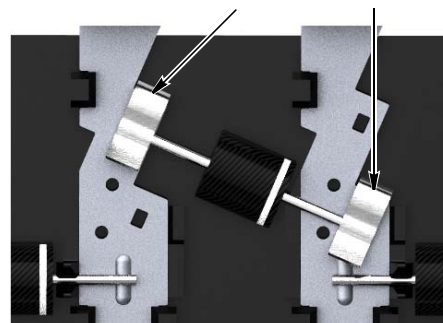

Figure 9
7. Pull the repair tool from the junction box. Figure 9 shows the replacement diode properly installed in the junction box.